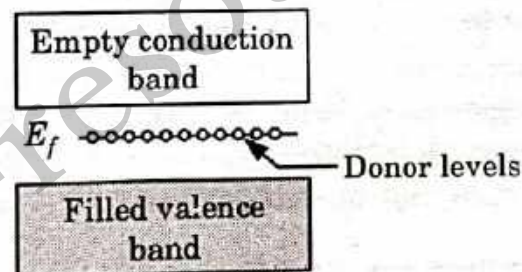

Fig. 3.14.2. n -type extrinsic semiconductor.
4. That is captured in the band diagram by this donor level (Fig. 3.14.2) which stays very close to the empty conduction band. So, at very small amount of energy we can get these donor electrons to get into the conduction band and then carry out the conduction processes.